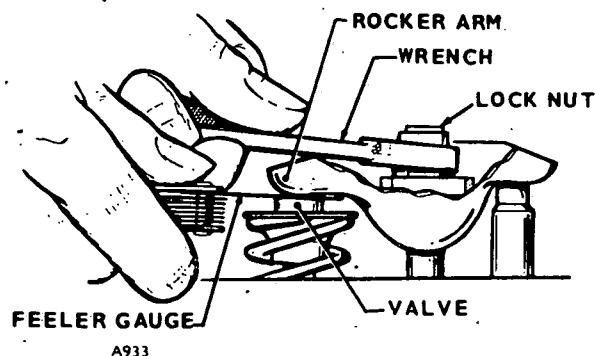

FIGURE 40. CHECKING VALVE CLEARANCE
4. After allowing engine to cool, check the clearance with a feeler gauge between the rocker arm and the valve (see Figure 40). Increase or reduce the clearance until the proper gap is established. Correct valve clearance is 0.011-inch intake and 0.008-inch exhaust.